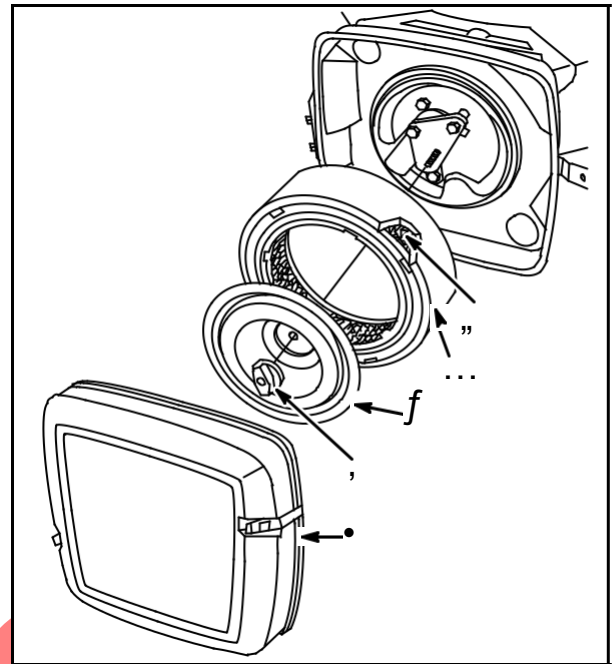
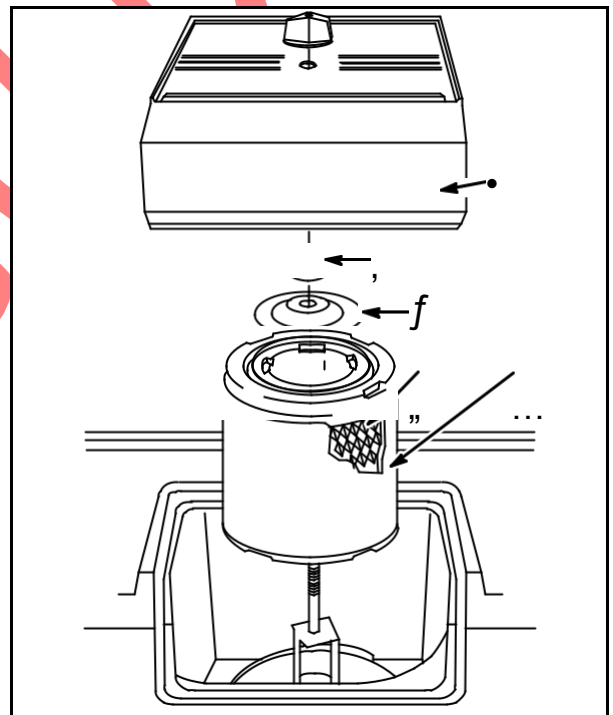

Fig. 1
Fig. 2
Remove cover (1), knob (2), plate (3), and air cleaner cartridge (4) with pre-cleaner (5), **Fig. 1** or **Fig. 2**.